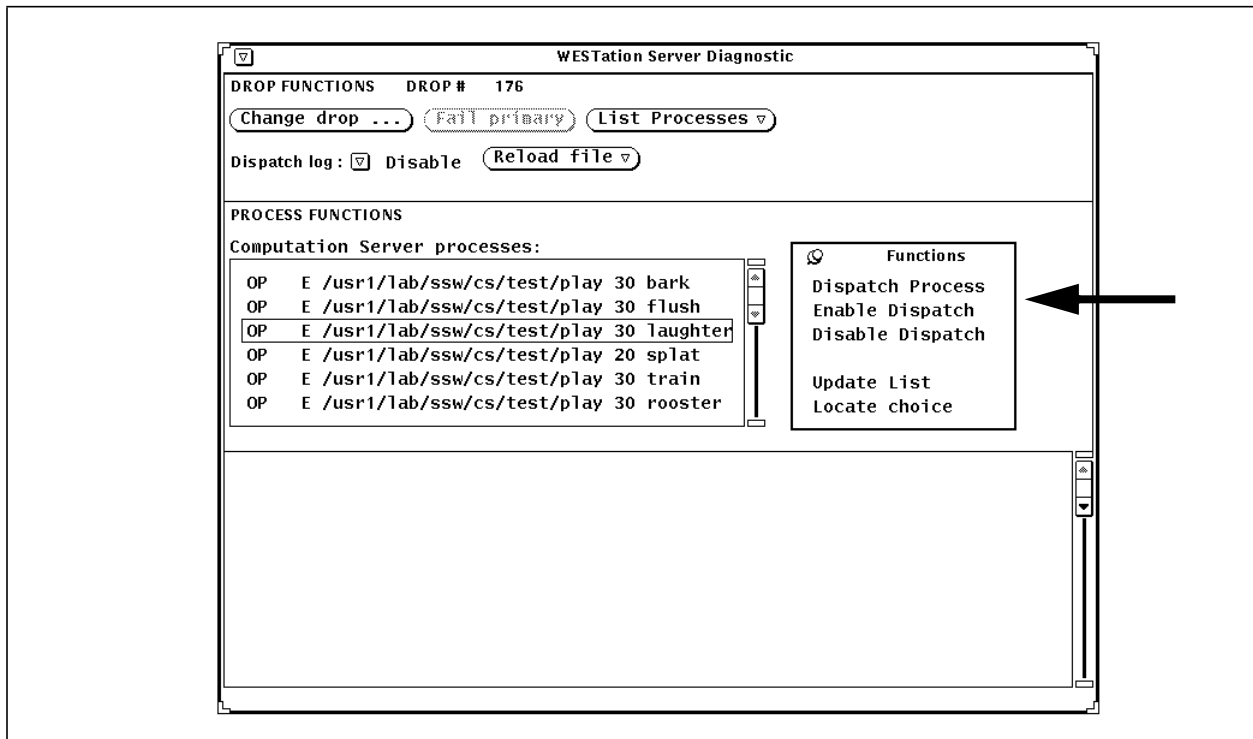

Figure 5-9. WEstation Server Diagnostic (Functions Menu)
1. Use the right mouse button to click on the **Computation Server processes** scrolling list. This will display the **Functions** menu (see Figure 5-9).